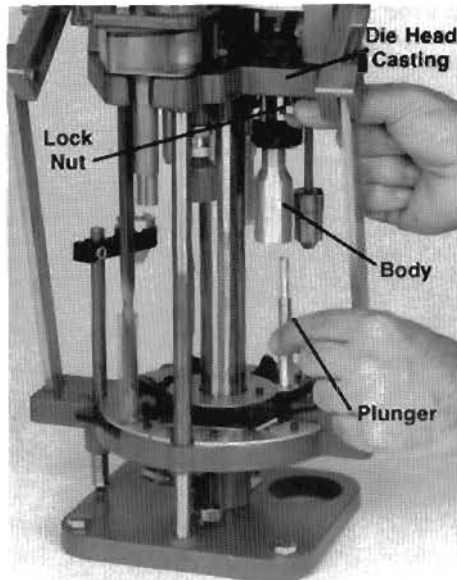

Fig. 51
**Figure 51** - Screw the crimp-die body into the lower bracket until 9 threads on the die body remain below the block. Insert the crimp plunger into the die body, and thread the 9/16" lock nut onto the plunger shaft. Then insert the die plunger shaft up into the diehead casting.